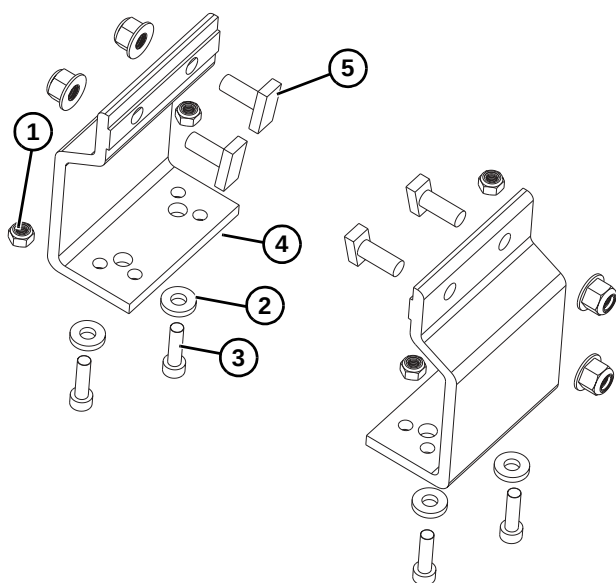

Figure 15
1. Locate brackets. Exploded views shown in **Figure 15**.
2. Remove nuts (**Figure 15, item 1**), washers (**Figure 15, item 2**), and screws (**Figure 15, item 3**) from brackets (**Figure 15, item 4**).
3. Insert bracket with studs (**Figure 15, item 5**) with head parallel to slot into conveyor side slots.